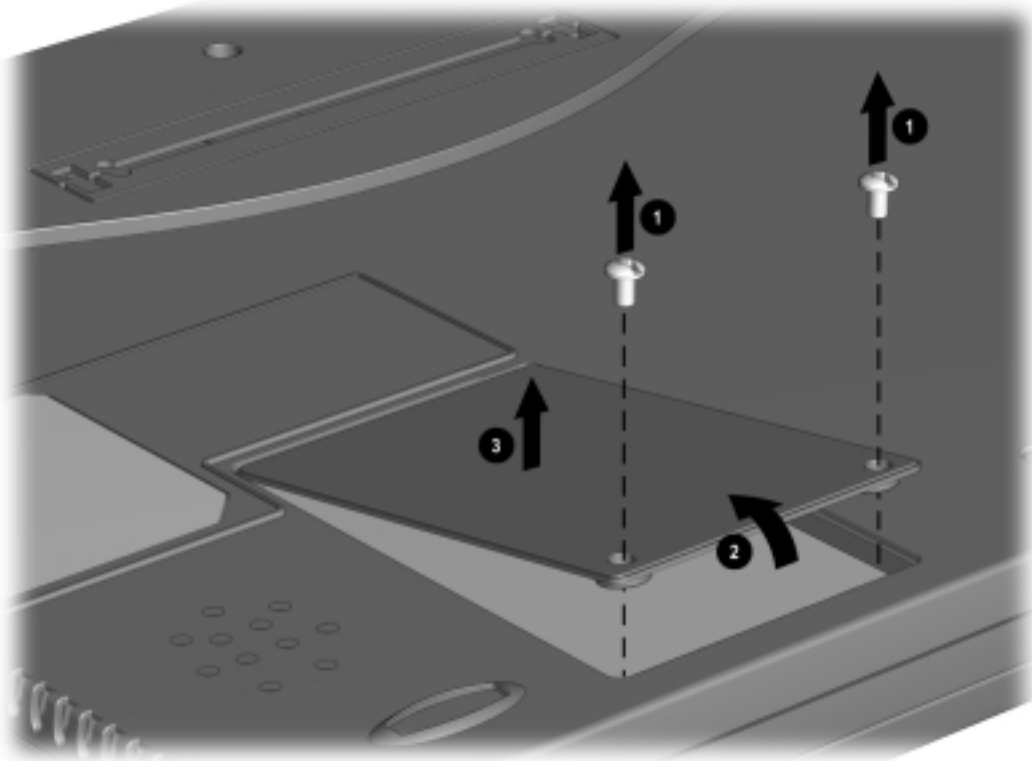

Figure 5-11. Removing the Modem or Modem/NIC Card Cover
4. Remove the two screws that secure the modem or modem/NIC card cover to the base assembly ❶ (Figure 5-11).
5. Lift the front edge of the cover and swing it back ❷.
6. Remove the cover ❸.